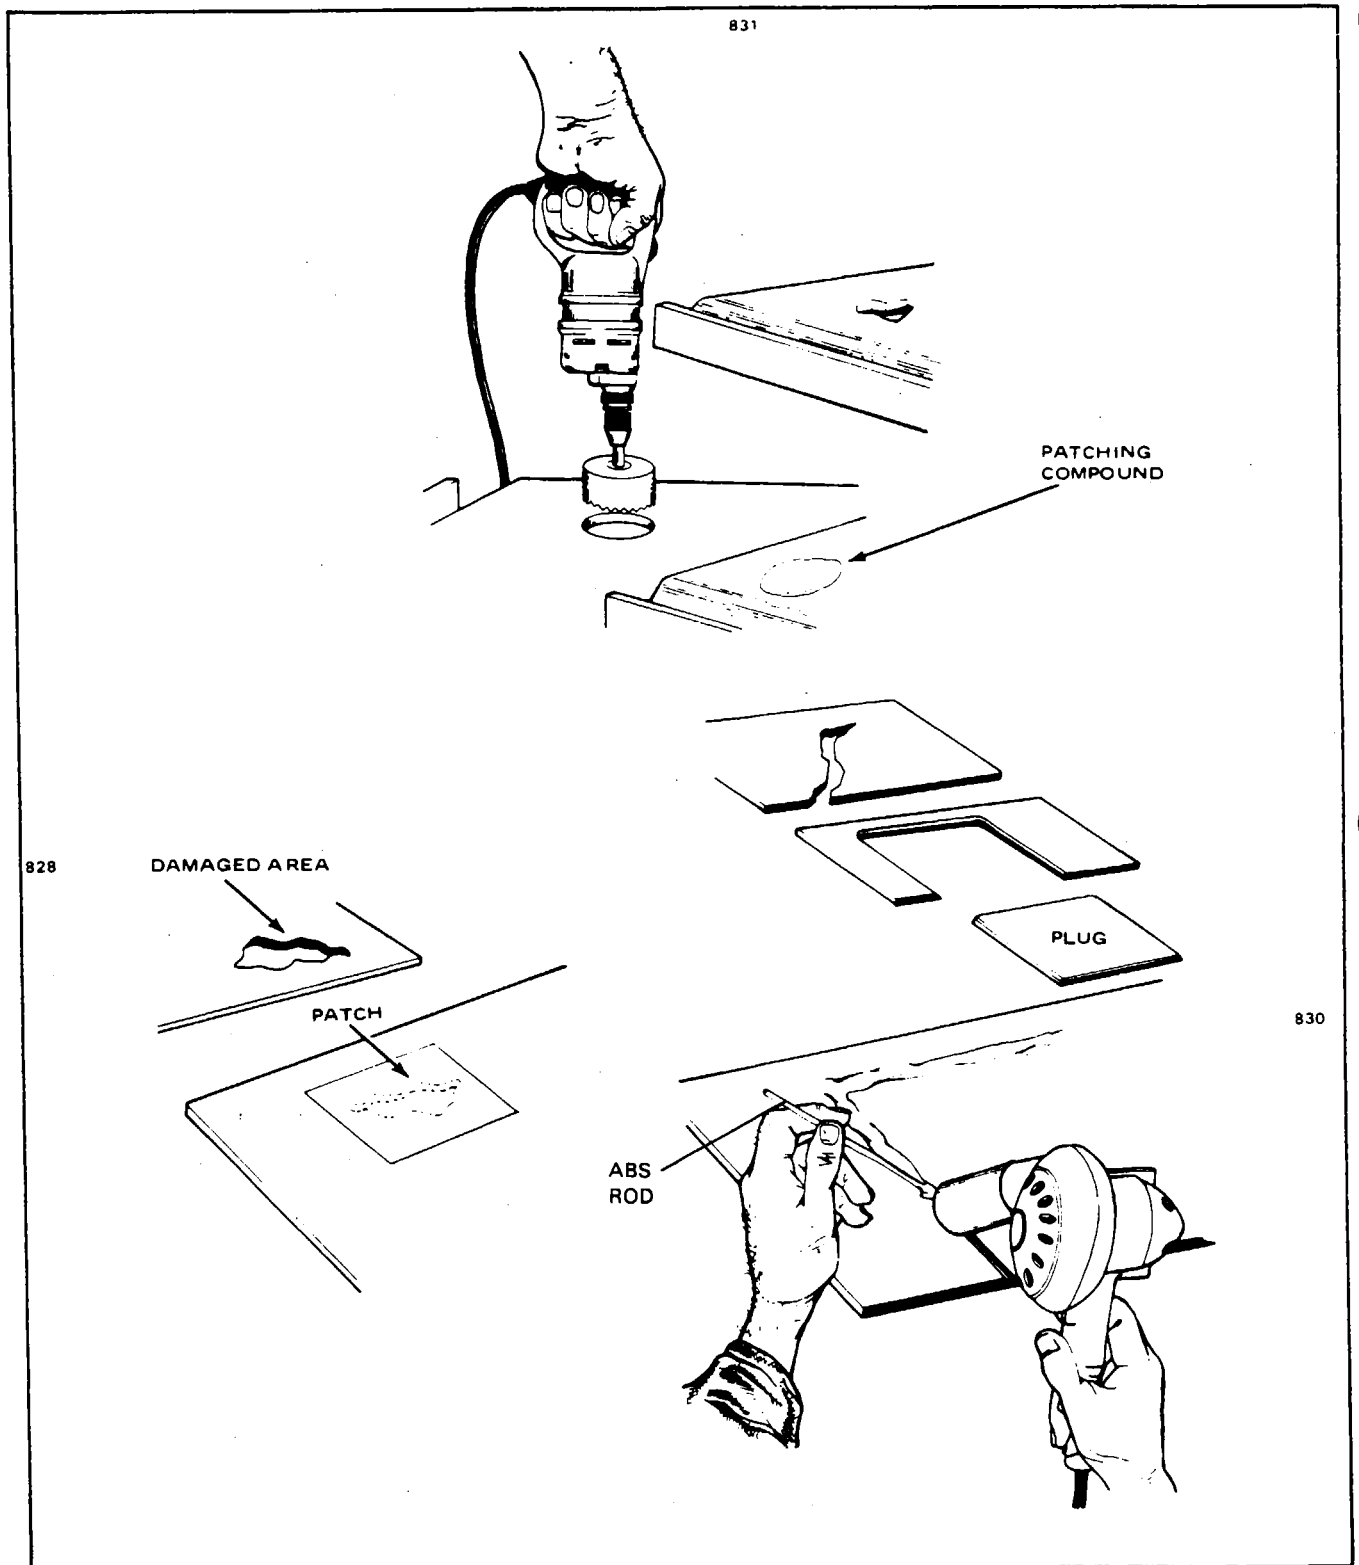

Figure 4-32. Various Repairs
- e. Repairing Major Damage: (Larger than 1 inch in diameter.) (Refer to Figure 4-32.)